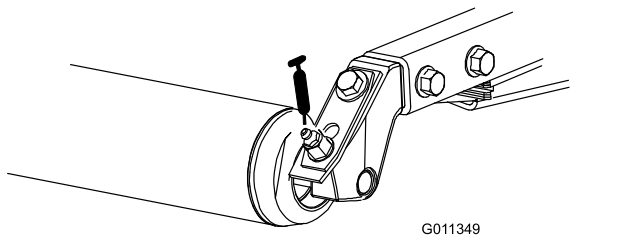

Figure 44
- Rear roller bearings (2 per cutting unit) (Figure 44)